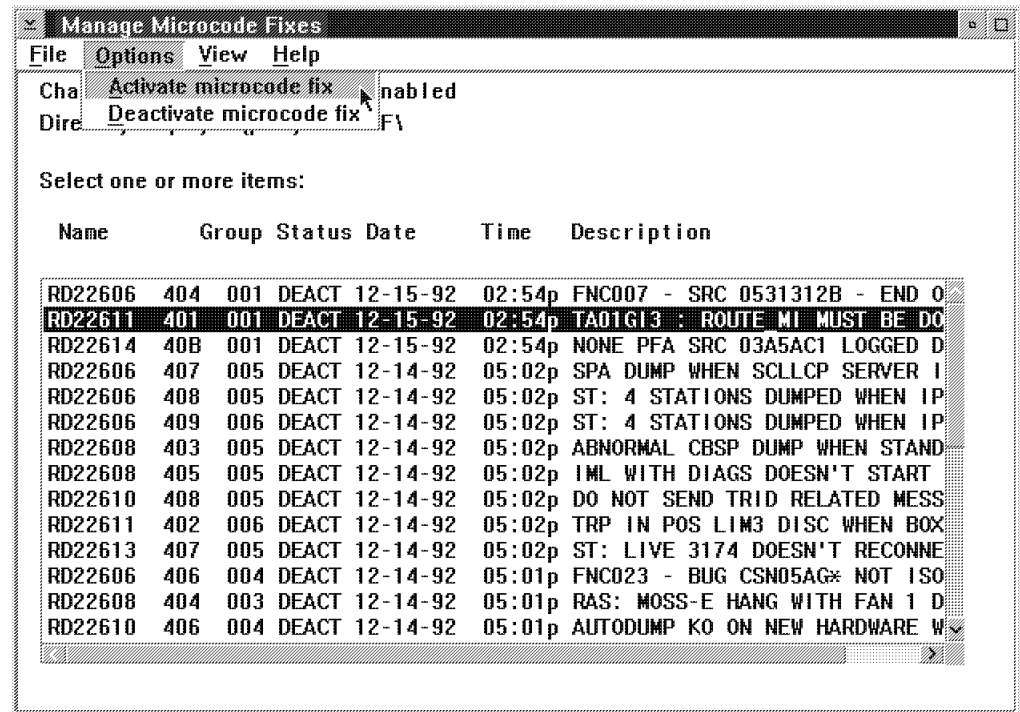

Figure 3-11. Manage Microcode Fixes
13. ____ Click on the lines of the MCFs to be applied (see example in the Figure 3-11 on page 3-13)
7. ____ Click on the lines of the MCFs to be removed (see Figure 3-11 on page 3-13)